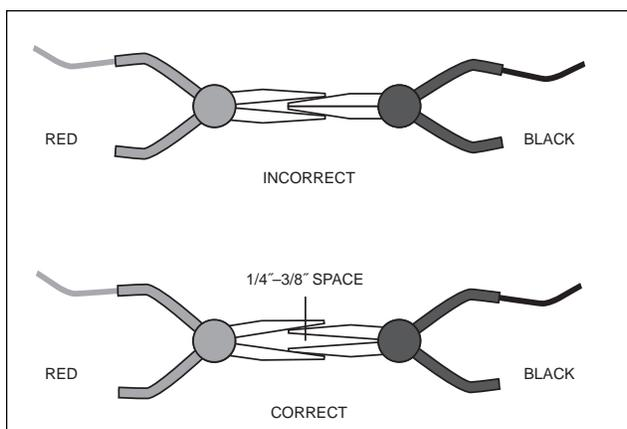

FIGURE 1. SHORTING KELVIN KLIPS
4. Short the Kelvin Klips together as shown in Figure 1. With the black clip entirely closed, attach the red clip to the black clip as shown. Open the black clip slightly, creating a 1/4 - 3/8 inch space between its jaws. **DO NOT CLAMP KELVIN KLIPS DIRECTLY TOGETHER WHEN PERFORMING A SHORT CIRCUIT, ZERO CORRECTION.**